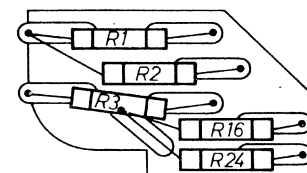

Fig. 131.1
- 2.10 Unsolder the resistances (see Fig. 131.1).
- 4.6 Open the front plate support. Unsolder the three wires from the tag block. Solder the resistances R 3, R 16, R 24 and R 1 into the front plate according to the values found (see Fig. 131.1). Close the front plate support.